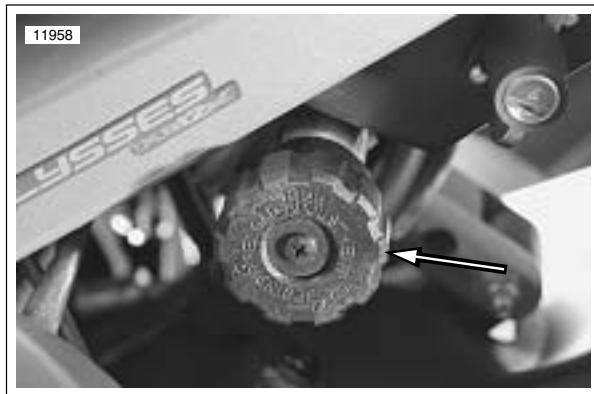

Figure 1-36. Rear Shock Preload Adjuster
- See Figure 1-36. Adjust the preload by turning the preload adjuster knob located on the left side of the vehicle according to Table 1-10.